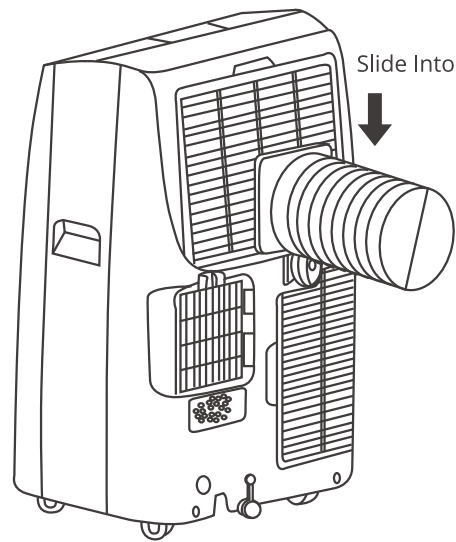

Fig.4
- Install the hose inlet into the unit (Fig.4).